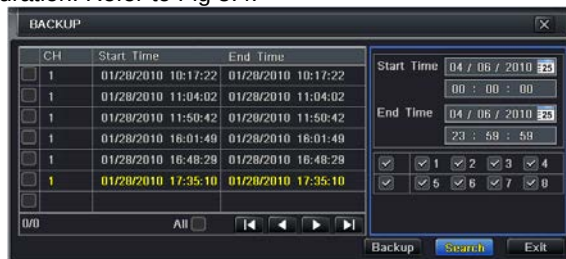

Fig 5.4 Backup Configuration
Step 1: Enter into backup configuration. Refer to Fig 5.4.